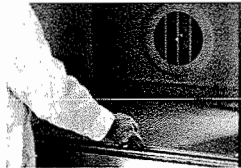

Fig. 11
7. Install *bottom panel* by lifting over rack guide brackets and pushing straight in as shown in Fig. 11.